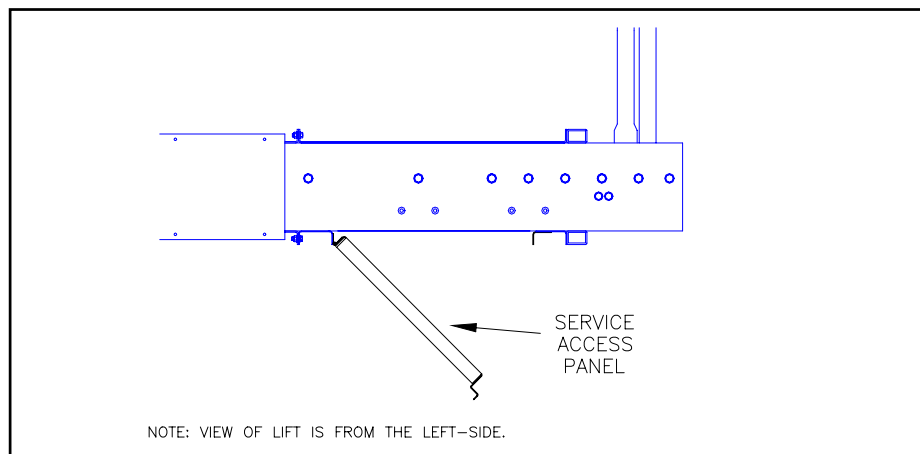

FIGURE 2-2: SERVICE ACCESS PANEL (OPEN)
- t. Refer to **Figure 2-2**. To gain access to the underside of the lift, hold the service access panel up, remove the two retaining bolts and lock-nuts from the front edge of the panel, and lower the panel.